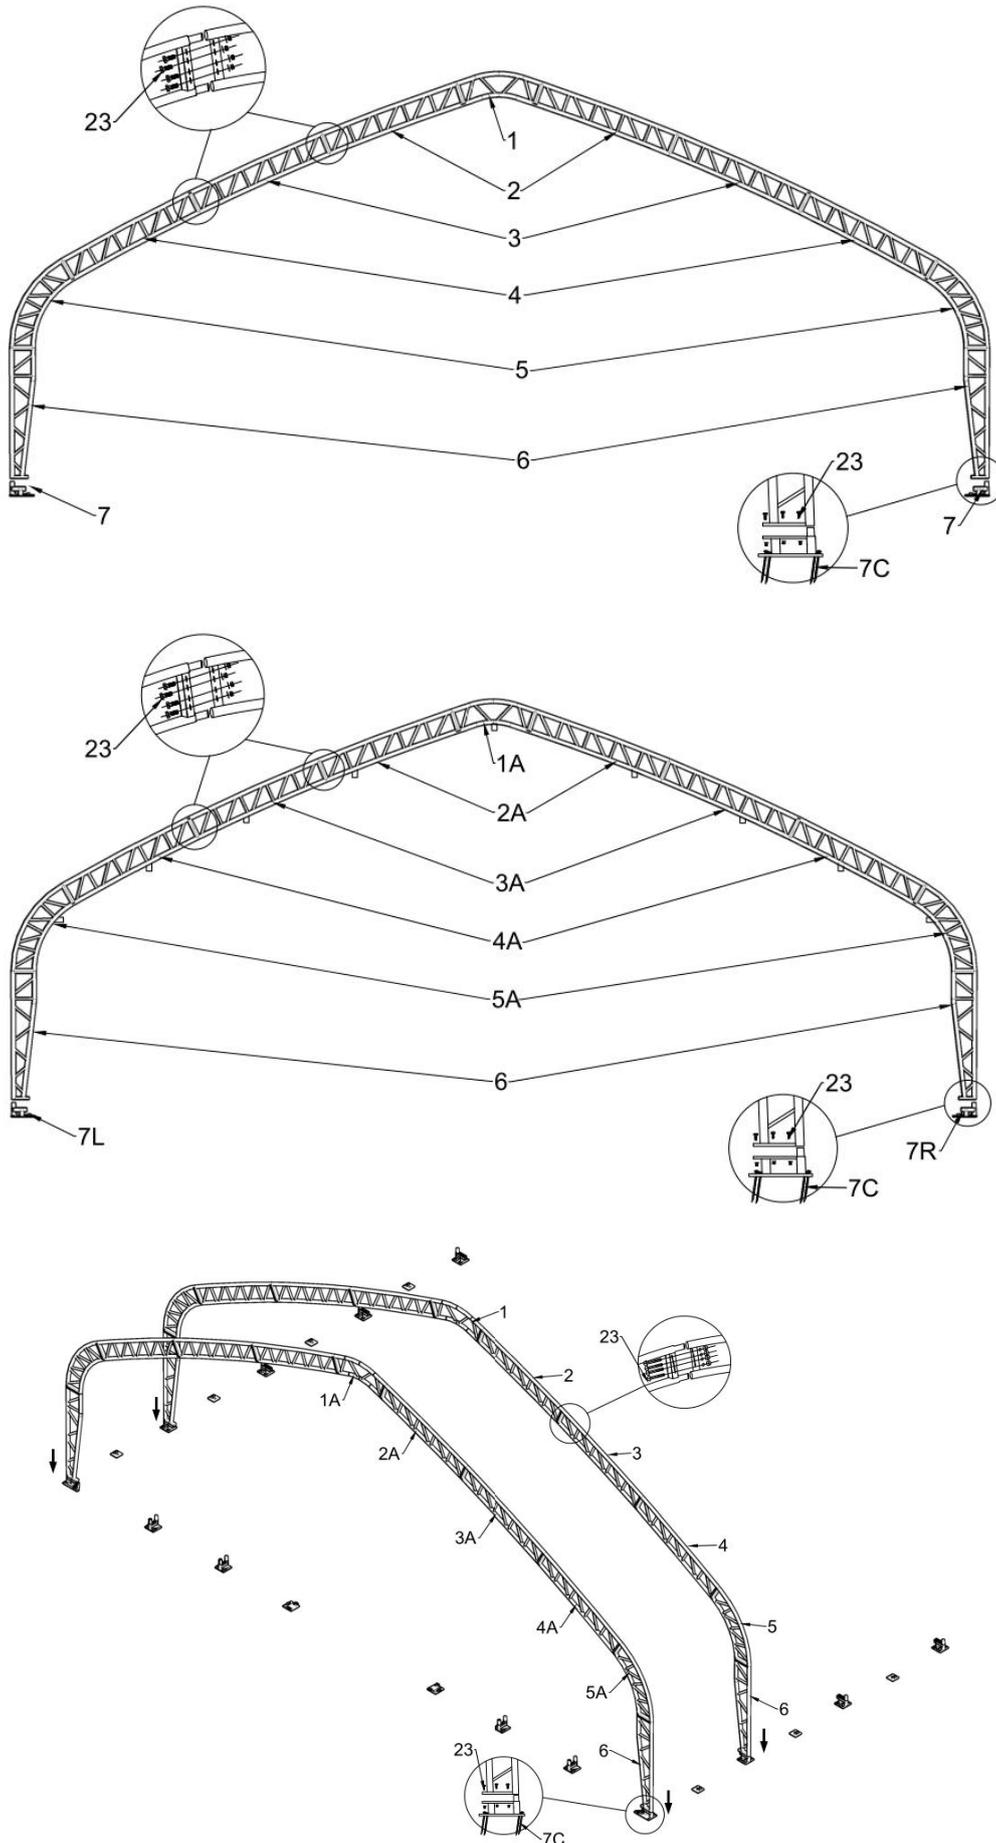

Figure 3
1. Figure 3 shows to connect the Top roof tube(No.1/No.1A), Upper curving tube(No.2/No.2A), Middle curving tube(No.3/No.3A), Lower curving tube(No.4/No.4A), Sidewall curving tube (No.5/No.5A) and Standing leg(No.6) with Bolt M12x50(No.23), which makes in one arch, then put the arch into tube of Base plate by Hoist, and assemble every group of arch by turns.(see Figure 3).